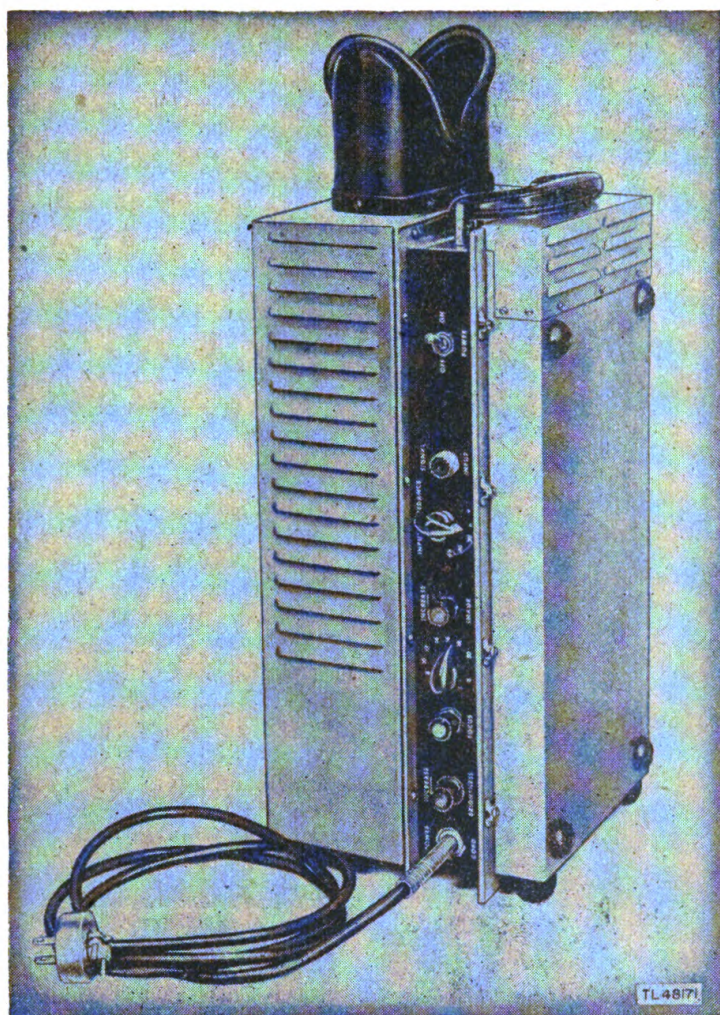

Figure 3. Oscilloscope TS-34A/AP.
5. OSCILLOSCOPE TS-34A/AP (fig. 3).